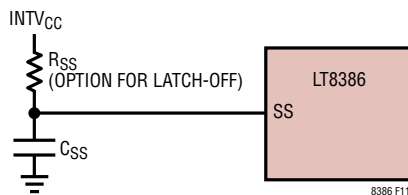

Figure 11. SS Capacitor and Resistor Configuration
The LT8386's soft-start (SS) pin has two functions. First, it allows the user to program the output start-up voltage ramp rate through the SS pin. An internal 22 μ A current pulls up the SS pin to INTV_{CC}. As shown in Figure 11, connecting an external capacitor C_{SS} at the SS pin to GND will generate a linear ramp voltage. This voltage ramp at the SS pin forces the LT8386 to regulate the FB pin voltage to track the SS pin voltage until V_{OUT} is high enough to drive the LED at the commanded current level.